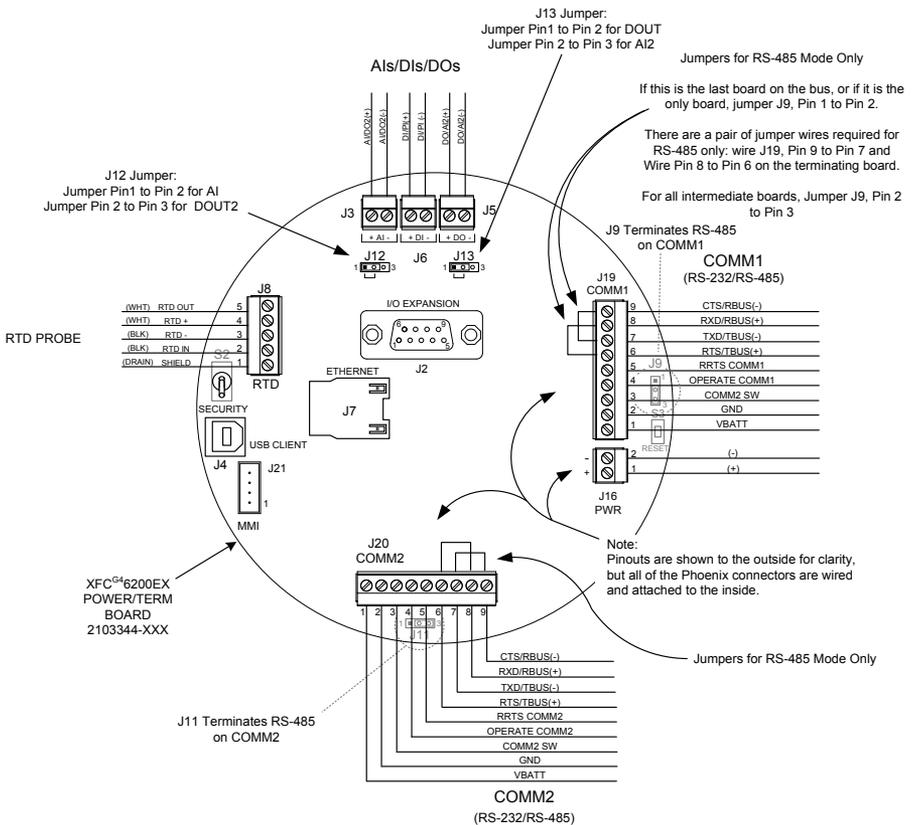

Fig. 11: G4 EX termination board
6. Remove J8 connector from the G4 EX termination board and begin field wiring (Fig. 11).
The ABB OEU (if purchased) may contain the power supply, battery and any optional communication equipment. If the user is providing their own power and/or communications enclosure, refer Fig. 11 for field wiring.
- Wire all connections inside of the G4 EX using Fig. 11, Table 1 and Table 2. This may include communication to COMM1 (J19), COMM2 (J20), input/output (J3–J5), optional IO expansion (J2), Ethernet (J7) and Power (J16).